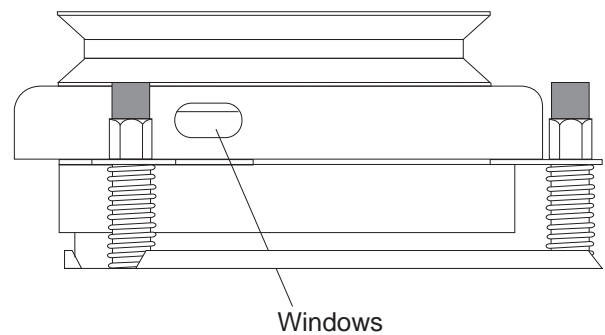

Figure 3
2. Locate the three "windows" or "notches" where the air gap is checked. (Figure 3)